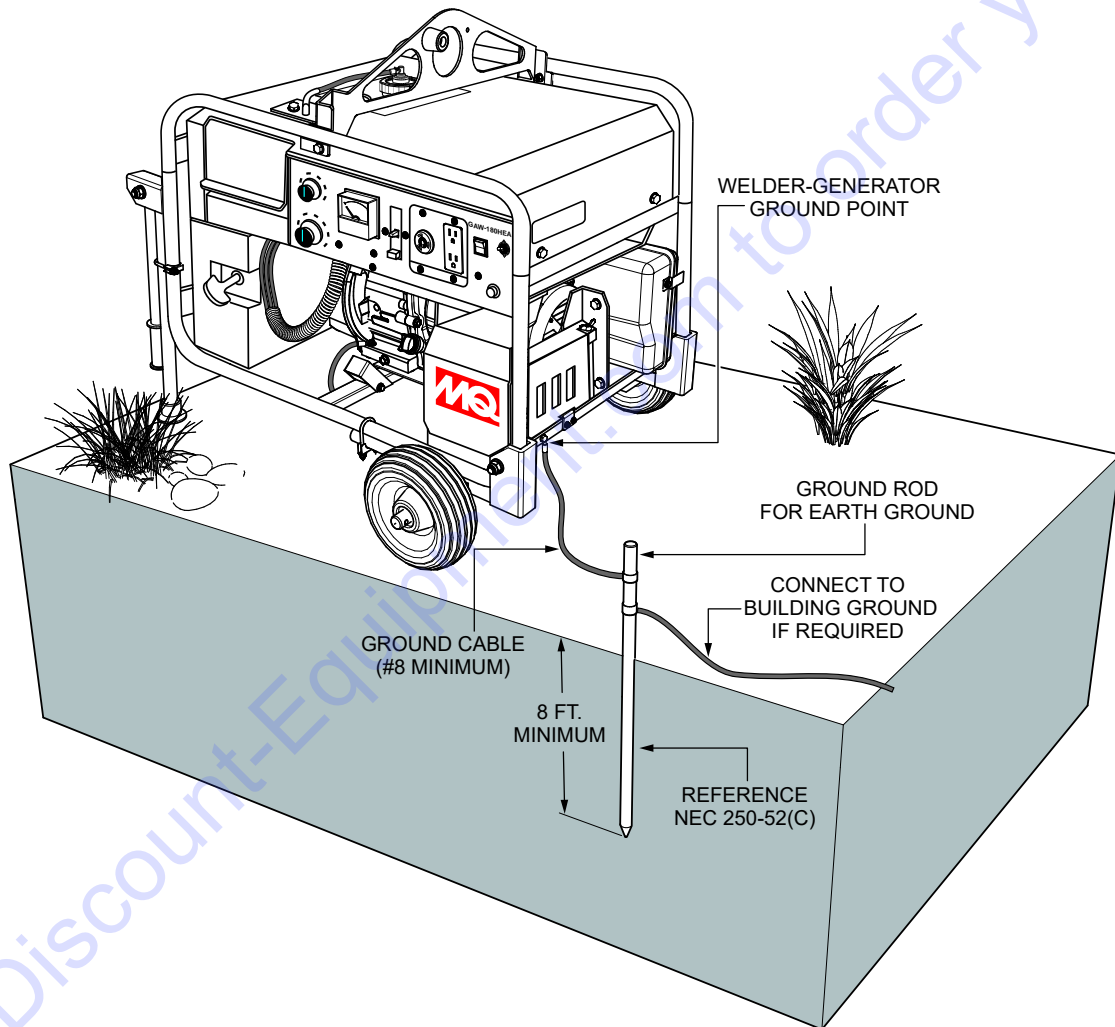

Figure 3. Welder-Generator Grounding
At the generator, connect the terminal of the ground cable between the lock washer and the bolt (Figure 3) and tighten the bolt fully. Connect the other end of the ground cable to a suitable earth ground (ground rod).
2. When grounding the generator (Figure 3) connect the ground cable between the lock washer and the nut on the generator and tighten the nut fully. Connect the other end of the ground cable to earth ground.